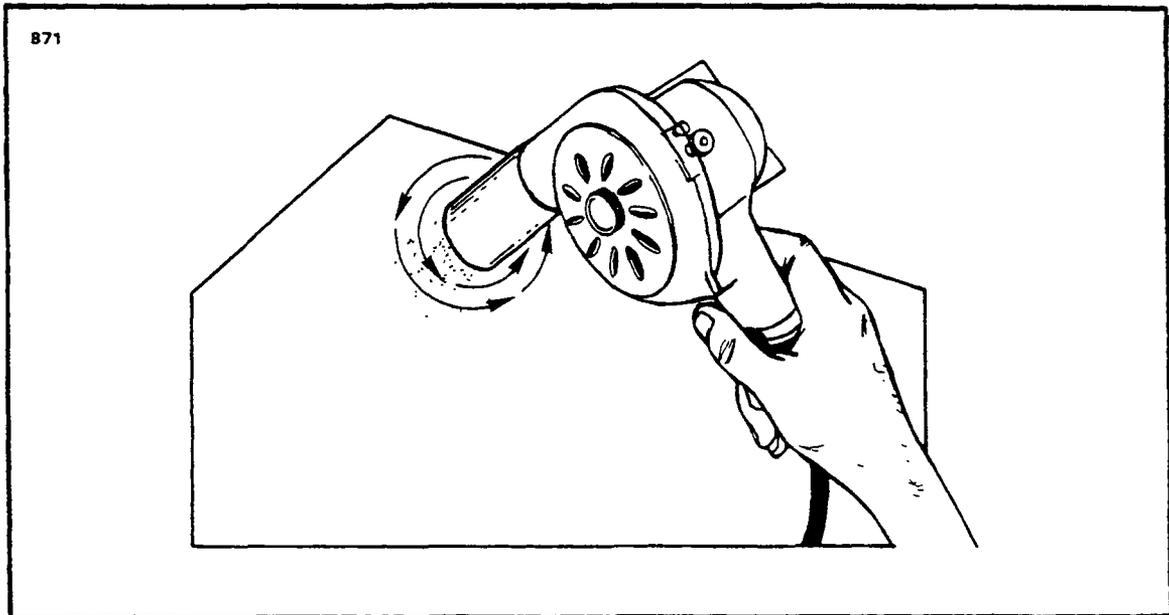

Figure 4-11., Surface Scratches, Abrasions or Ground-in-Dirt
b. Surface Scratches, Abrasion or Ground-in-Dirt: (Refer to Figure 4-11.)